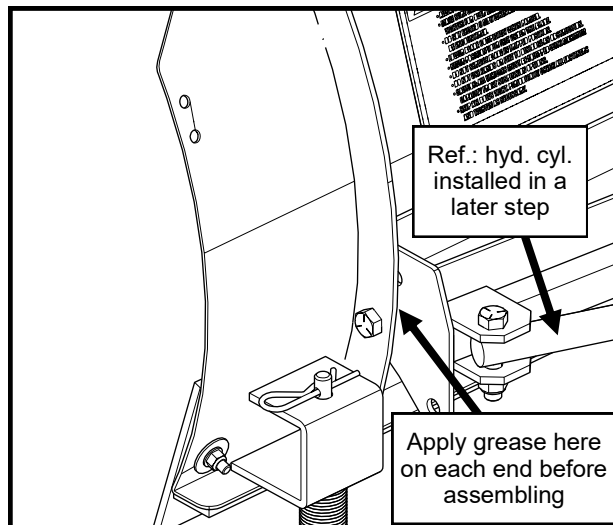

Fig. 1.1—Trip Frame to Moldboard
- 1.1 Per fig 1.1, locate the steel moldboard, trip frame, two 1/2-13 x 2 1/2" bolts, and two 1/2-13 Nylon lock nuts. Apply all-season grease to the mating surfaces on the trip frame and moldboard rib. As shown, line up the mounting hole in the trip frame with the mounting hole on the moldboard rib (near the bottom). Install into the mounting holes a 1/2-13 x 2-1/2" bolt as shown. Install a 1/2-13 Nylon lock nut on the back side of the bolt. Repeat installation of hardware for the right side, orienting the bolt head to face away from the center of the moldboard. Tighten the Nylon lock nuts until all thread slack is removed from the assembly while allowing the trip-frame to rotate freely.